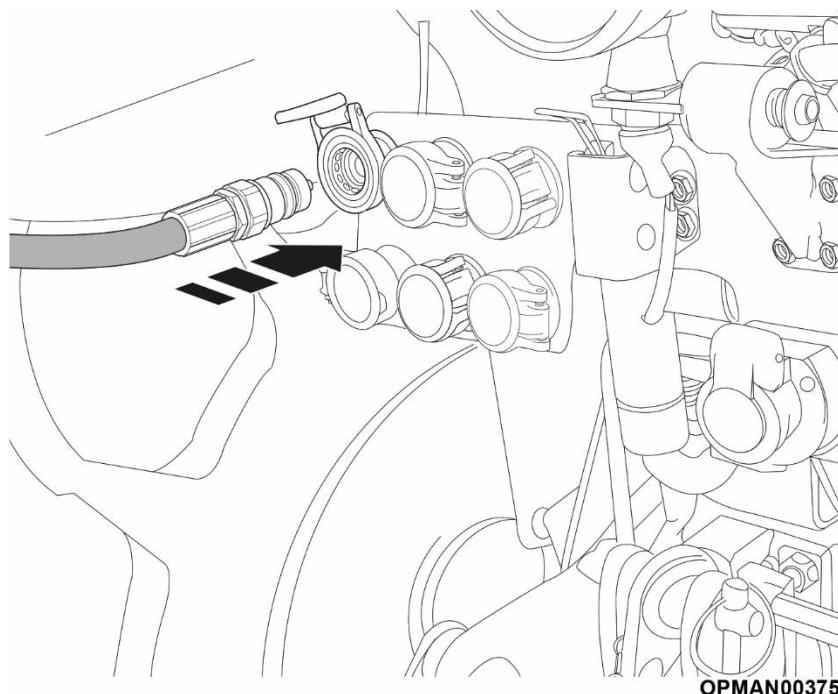

Figure 9
- 3.2.2.1 If the machine is provided with hydraulic side-shift, connect the two hydraulic hoses of the mower to the hydraulic services of the tractor (Figure 9).